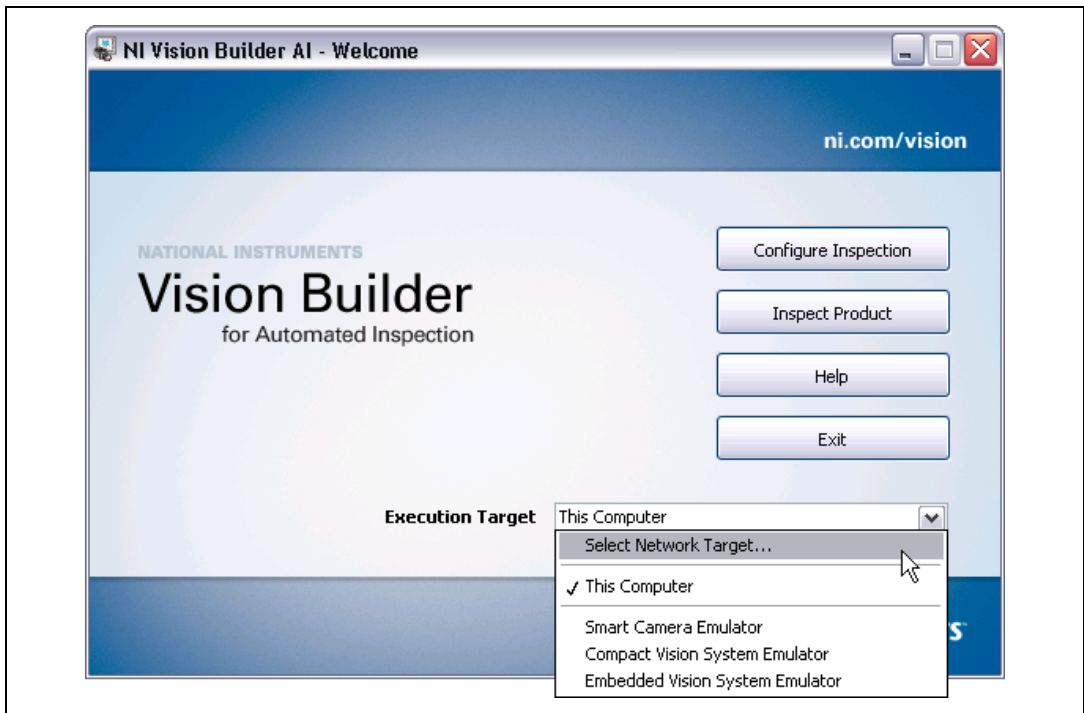

Figure 9-5. Vision Builder AI Welcome Screen
2. On the Vision Builder AI Welcome screen, shown in Figure 9-5, expand the **Execution Target** listbox, and select **Select Network Target**.